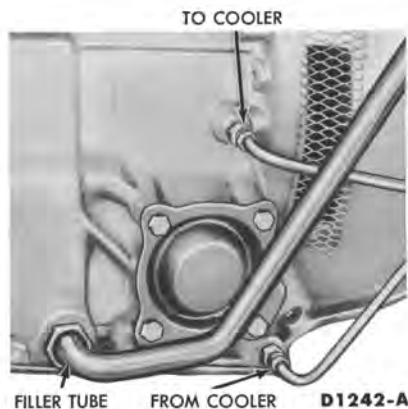

FIG. 2—170 Six Engine Cooler Line Connections at Transmission
3. Disconnect the converter-out line from its fitting on the lower right-hand side of the transmission case (Fig. 2). Remove the fitting from the case. Remove the hose from the gauge T57L-77820-A. Connect the hose to the converter-out $\frac{1}{8}$ -inch pipe thread in the transmission case.